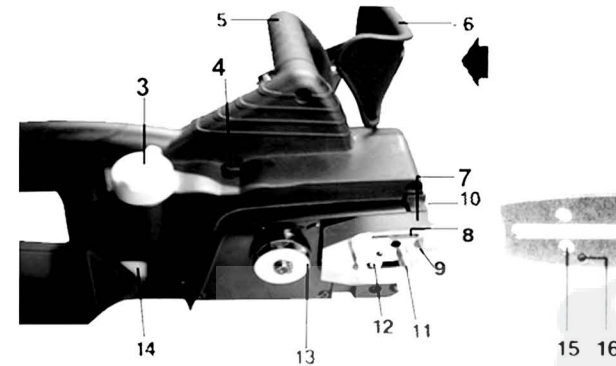

Fig. 1
Bring the chain tensioning pin (12) into its extreme left-hand position (when viewing the tool as in Fig. 1) by turning the tensioning screw (9) anticlockwise as far as it will go.
When switching the chain saw on, the hand-protection guard (6) must be in its normal position, i.e. be pressed in the direction of the arrow in Fig. 1 against the handle (5).